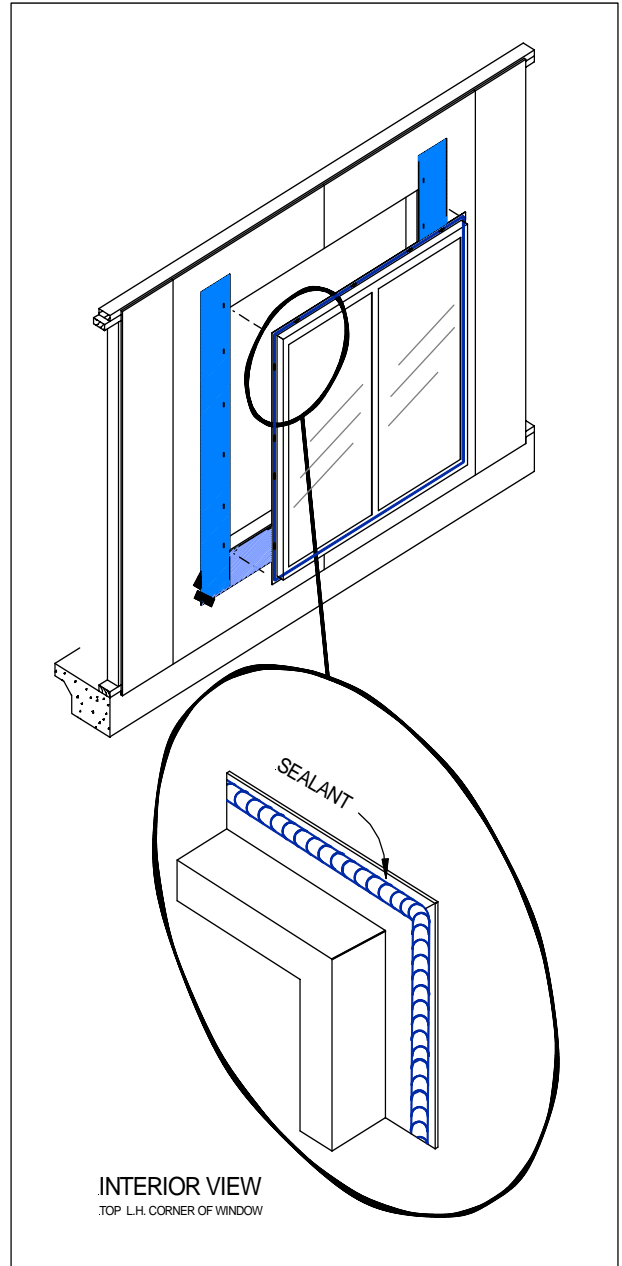

Figure B.7.1
- Immediately set the window into the rough framed opening, pulling the nailing fin in against the sheathing, bedding the window and the sheathing into the sealant, forming a gasket between the window and the flashing. **See Figure B.7.1**